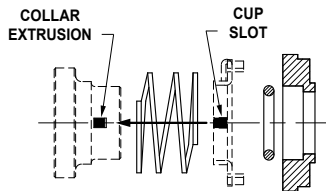

Figure No. 8
- b. Place cup on the top of the spring and rotate the cup until the tab on the bottom of the cup abuts the end of the spring coil. Line the notch in the cup with the extrusion pin on the drive collar. (see figure no. 8)
- d. Check to make sure that slot in cup is still aligned with the extrusion in the drive collar. (see figure no.8)